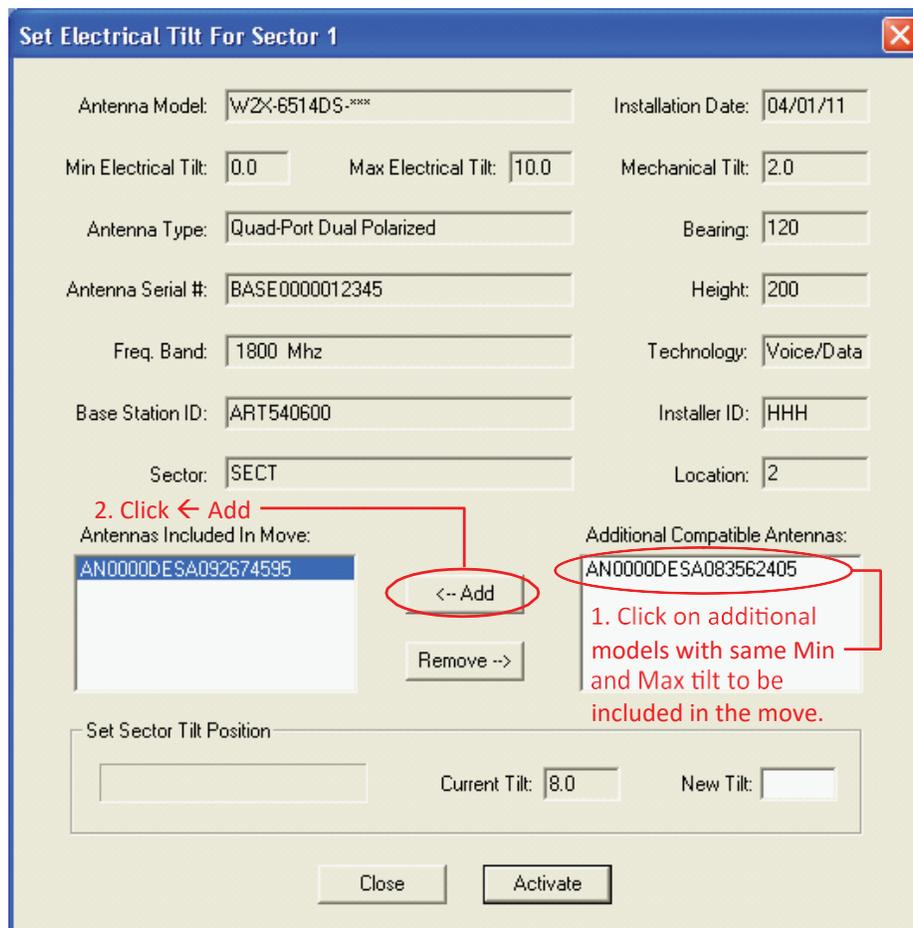

Figure 8-2. Adding Devices to be Included in the Sector Move.
4. From the **Set Electrical Tilt for Sector** screen, notice that the selected device is highlighted and displayed in the box labeled **Antennas Included In Move**. This box displays a list of all devices that will be included in the sector move. Initially, this box contains only the antenna that was selected from the main screen. All of the current configuration settings for this device, including its current tilt, are displayed on this screen (Figure 8-2).
- Double click on the device to immediately move it to the **Antennas Included In Move** box (Figure 8-2).